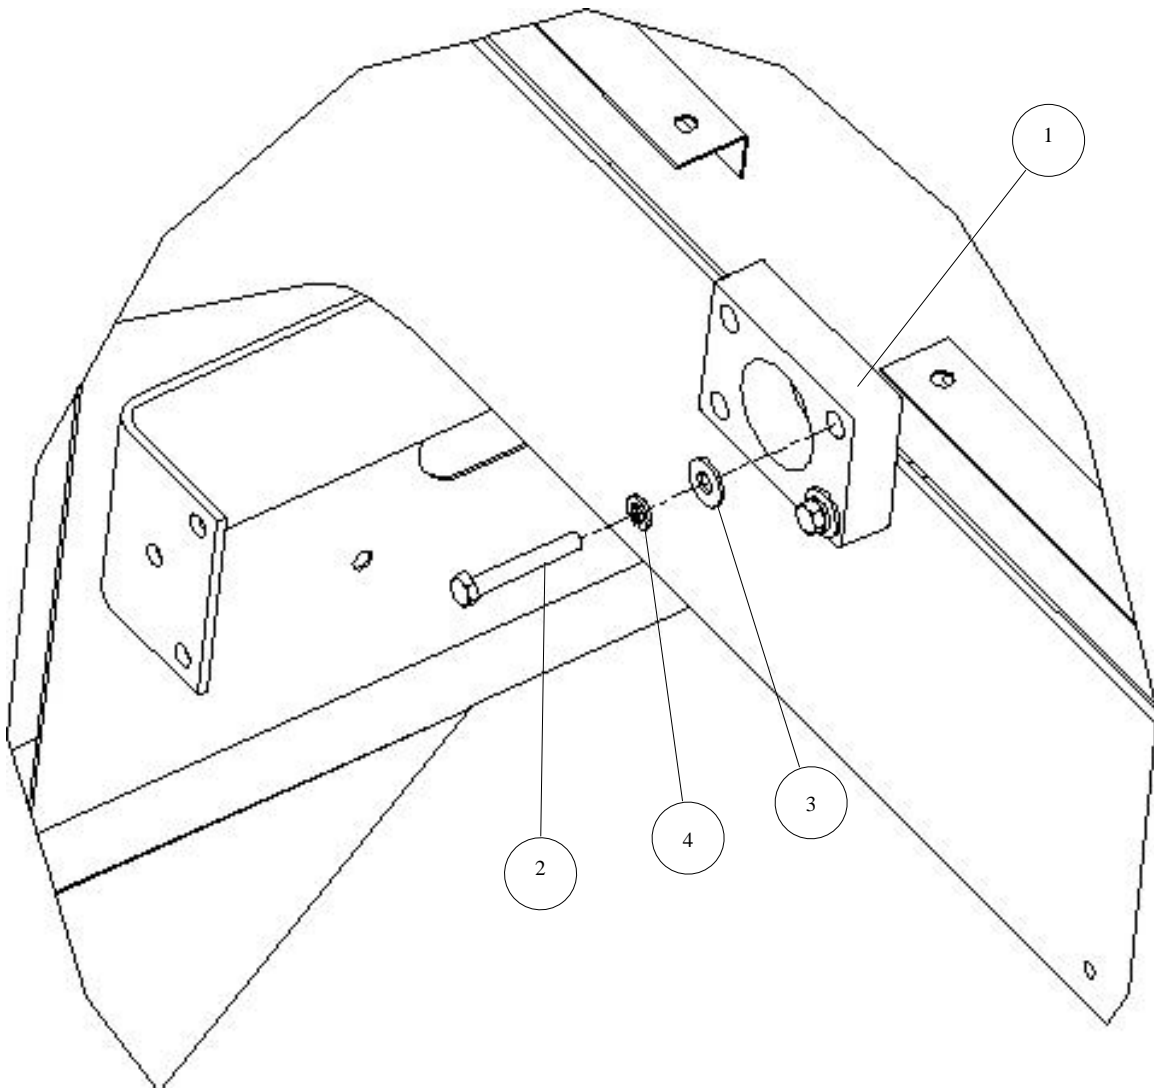

Figure 3-53. Firewall Hood Spacer Installation.
2. Install firewall hood spacer as follows (see Figure 3-53):
- a. Install one firewall hood spacer (1) onto firewall and temporarily secure with two bolts (2), flat washers (3), and lock washers (4). Hand-tighten bolts.